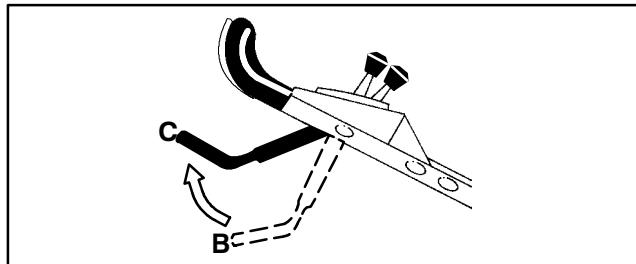

Figure 8
8. Bring the control bar up into the mid position (about 5 inches below the handle cross bar) (Fig. 8, position C).